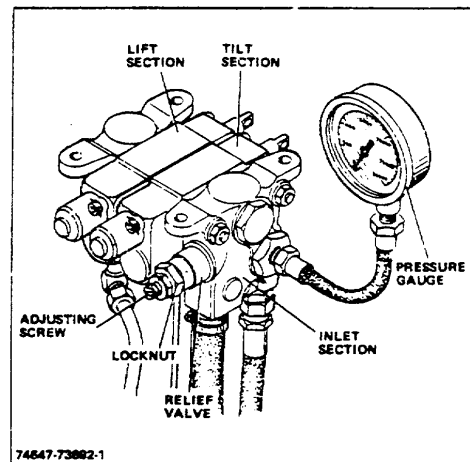

Figure 6-2. Checking Inlet Section Pressure
1. Checking Inlet Section Pressure (Fig 6-2)
- b. Remove pipe plug from large plug in the side of the inlet section. Install a pressure gauge (Fig 6-2) with a zero to 3000 psi range. A short length of high pressure
Some lift trucks are equipped with an inlet adaptor which has a pipe plug where a pressure gauge can be installed. If unit is an early model and is not equipped with this adaptor, then either install a large plug and gauge in the side of the inlet section as illustrated in Figure 6-2, or disconnect the hydraulic hose from the upper port in the inlet section, install a zero to 3000 psi gauge and the hydraulic hose in the tee.